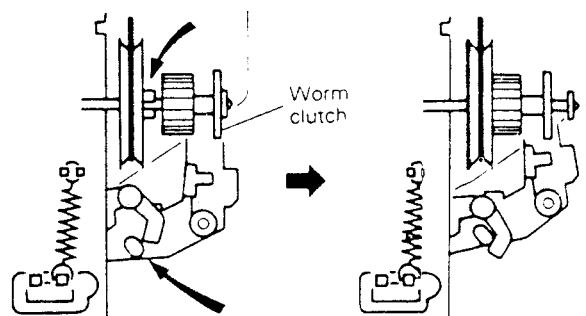

Fig. 1-1-12 (a) Not locked Fig. 1-1-12(b) Lock engaged
3. Install the front panel as shown in Fig 1-1-12 and re-engage the tabs. Supply power and use a spare cassette to check for normal loading and eject operations.